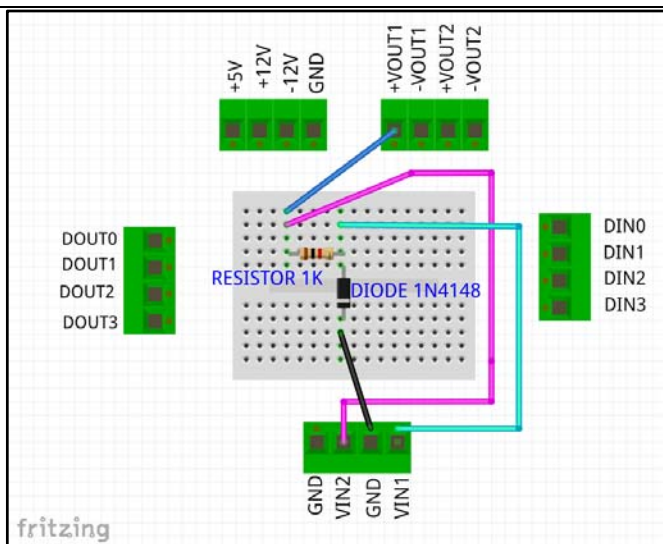
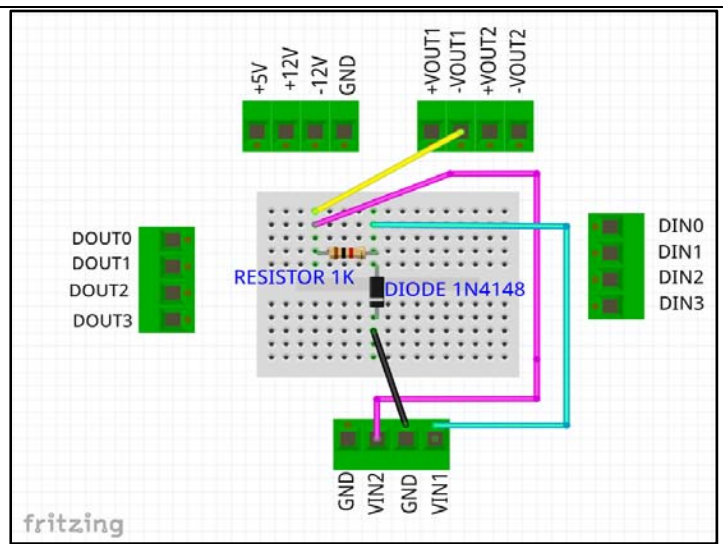

Fig 2. Test Setup (Forward)
Fig 3. Test Setup (Reverse)
3. Using the GUI Feed the test voltages -5V to -2.0V in 1.0V steps -2.0V to +2V in 0.2V steps and +2V to +9V in 1.0V steps. Use -Vout1 and Test Setup (Fig 3) for negative voltages and +Vout1 (Fig 2) for positive voltages. Save each set of values.
4. Plot the data using the Plot XY (VI) mode.